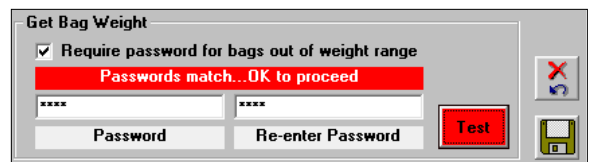

Figure 6. Receive the message, “Passwords match... OK to proceed” before pressing Save.
6. Receive a successful test then press **Save** (see Figure 6).